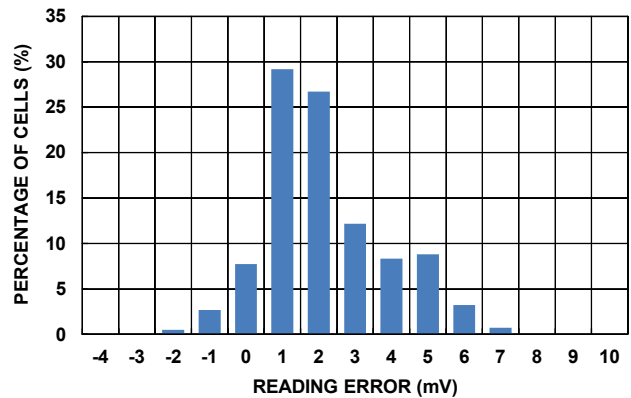

FIGURE 8. CELL READING ERROR FROM EVALUATION BOARDS AT CELL VOLTAGE FROM 2.6V TO 4.0V, AND -20°C TO +60°C HISTOGRAM
- Stresses may be induced in the ISL78610 during soldering or other high temperature events that affect measurement accuracy. Initial accuracy does not include effects due to this. See Figure 8 for cell reading accuracy obtained after soldering to Intersil evaluation boards. When soldering the ISL78610 to a customized circuit board with a layout or construction significantly differing from the Intersil evaluation board, design verification tests should be applied to determine drift due to soldering and over lifetime.